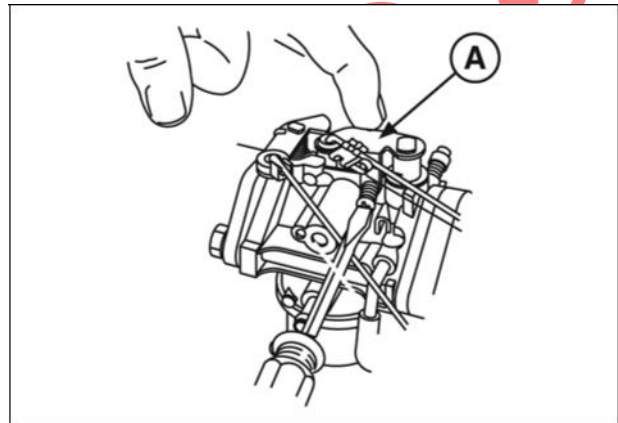

Figure 24
2. With control lever on equipment in SLOW position, hold throttle lever (A, Figure 24)